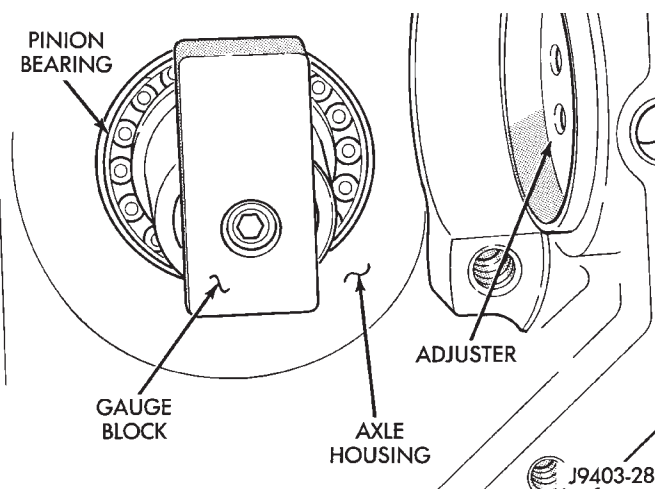

Fig. 70 Gauge Block
- (11) Tighten the nut to seat the pinion bearings in the housing. Allow the sleeve to turn several times during tightening to prevent brinelling bearing cups or bearings.
- (12) Loosen the compression nut tool.
- (13) Lubricate the pinion gear front and rear bearings with gear lubricant.
- (14) Re-tighten the compression nut tool to 1-3 N·m (15-25 in. lbs.) torque.
- (15) Rotate the pinion gear several complete revolutions to align the bearing rollers.
- (16) Install Gauge Block (Fig. 70).